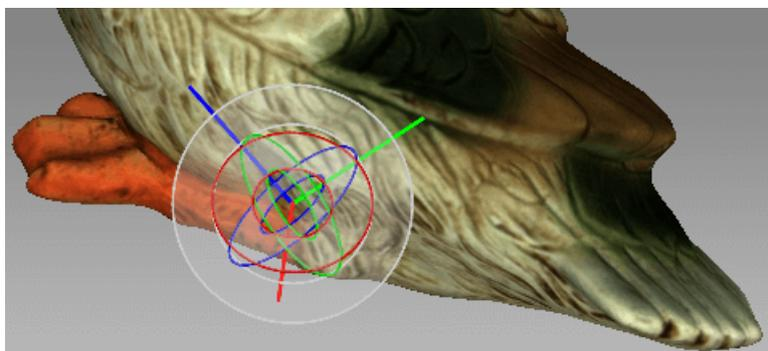

Figure 99: Rotation control
- Drag one of the three circles (see Figure 99) to rotate the object. Hitting the key that corresponds the required axis (X, Y or Z) will hide the controls for the other axes.